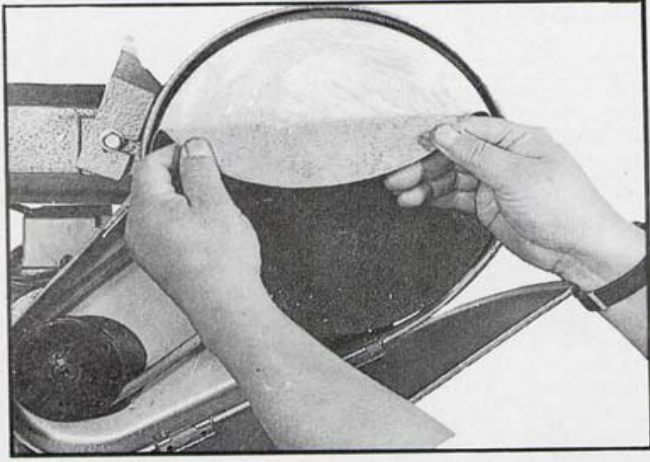

Fig 11.
2. Tear off the old sanding paper, clean off the glue residue left on the disc and fit the new sanding paper as shown in Fig.11.